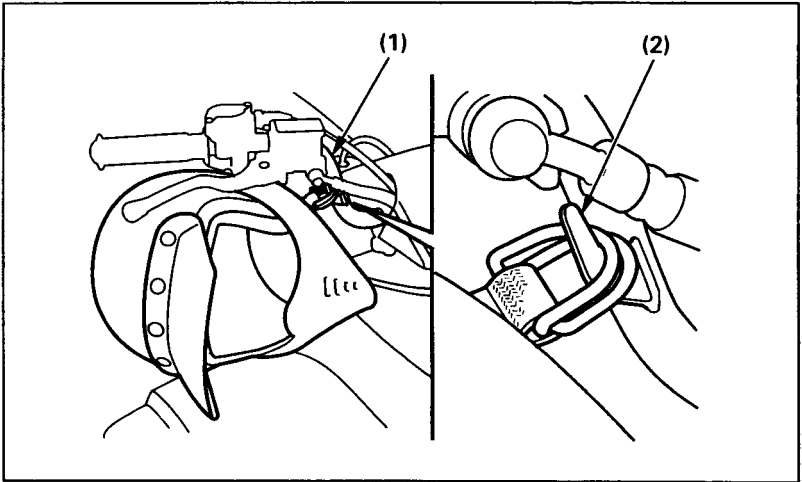

Fig. 2-19 (1) Handlebar
The helmet holder (2) (Fig.2-19 ) is located on the right side of the handlebar ( 1 ). To use the holder, hang the D-ring on your helmet strap over the bracket. Use the helmet holder only when the FOURTRAX is parked.